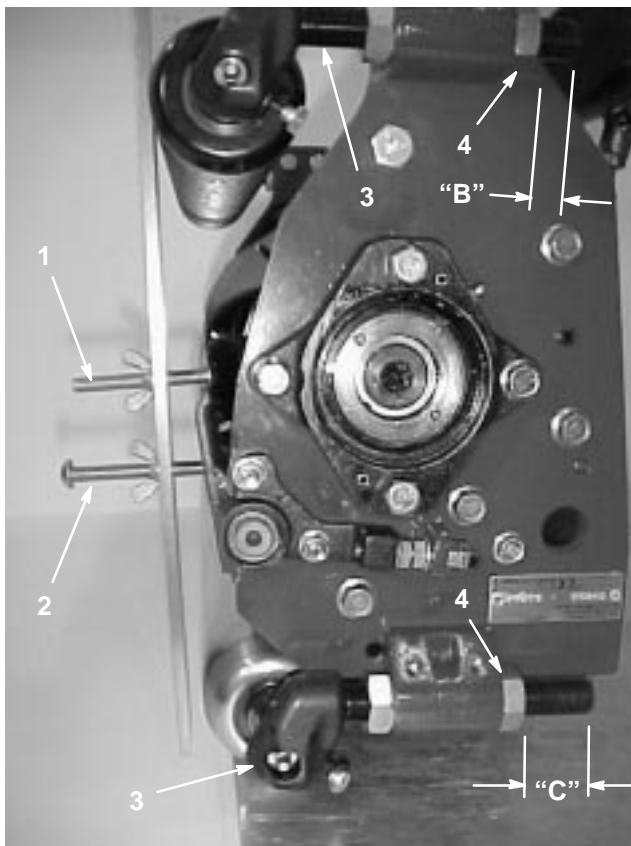

Figure 8
4. Set the front height-of-cut rod height, "B," using the dimension given in **Table 1**. This measurement is between the top surface of the height-of-cut rod and top cone nut (Fig. 8).
5. Set the rear support casting in either the top or bottom location as indicated in **Table 1**. Set the rear height-of-cut rod height **.100" (3 mm)** less than the dimension given in **Table 1** which will create a gap between the rear roller and the gauge bar (Fig. 8).
6. Place gauge bar across front and rear rollers. The first screw head should fit snugly over edge of bedknife and the end of second screw should contact bottom of bedknife (Fig. 8). If there is a gap between the front roller and the gauge bar or you can not put the gauge bar on, adjust the front roller until: (1) first (height-of-cut) screw fits snugly over bedknife, (2) second screw just contacts bedknife, and (3) gauge bar touches front roller. Verify front roller (attitude) at each end of the bedknife.